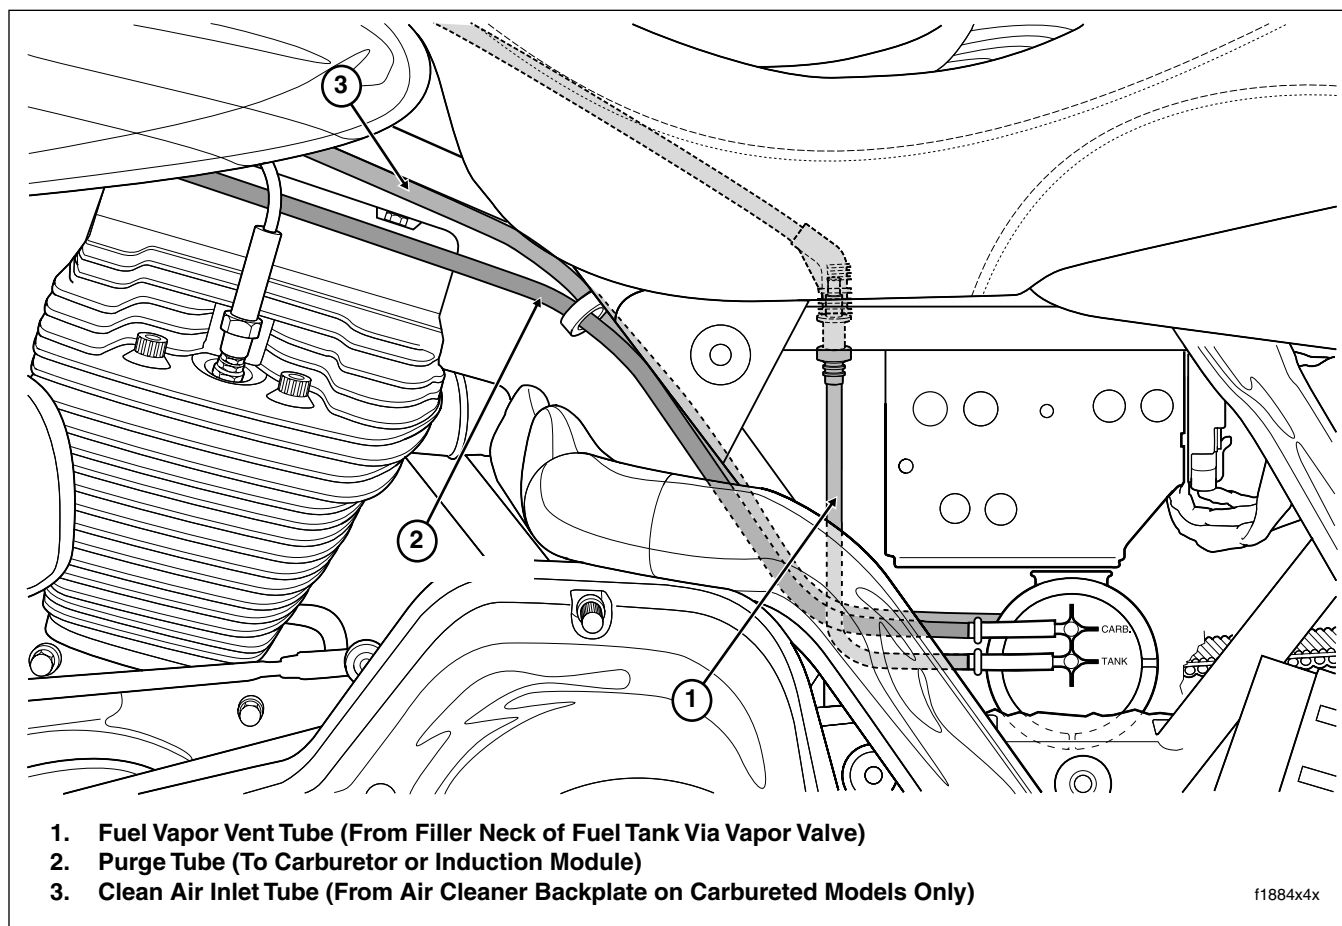

Figure 4-24. Charcoal Canister Tube/Hose Routing (Left Side View)
5. Recheck bottom vent tube routing to be sure that hose fittings are not pinched or kinked, and that there is no contact with the drive belt. For California models, see Figure 4-24.
From top fitting on left side of charcoal canister (stamped "CARB"), purge tube is routed forward where it runs under frame crossmember, and then angles upward between crossmember and inner primary housing. Captured in clip anchored in hole at front of crossmember (rear and inboard of cruise hole), purge tube goes over crossover pipe, runs along left side of rear cylinder rocker cover and into tunnel of fuel tank. It then crosses to right side of motorcycle just to the rear of the top engine mounting bracket, where it connects to a fitting on the carburetor (or induction module). See Figure 4-24.